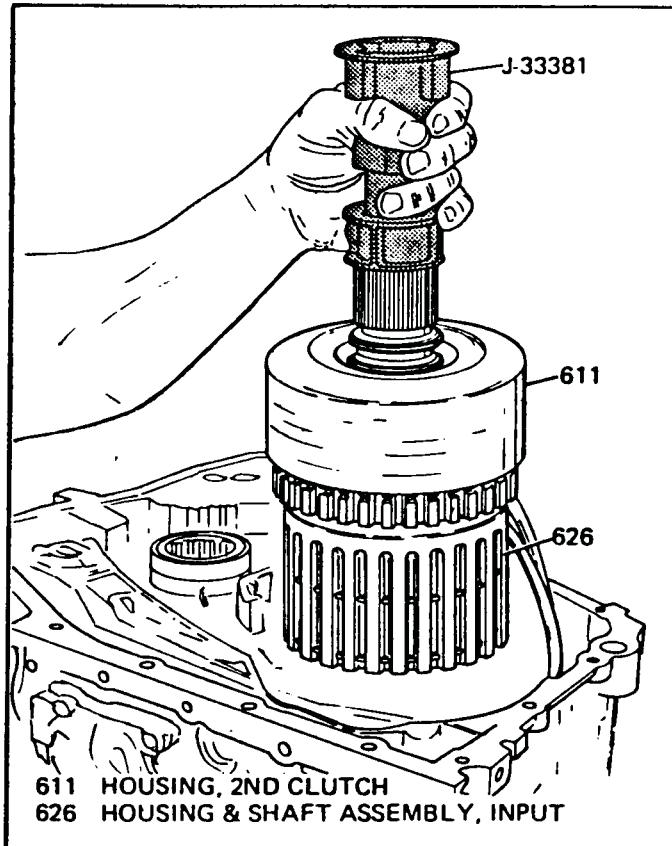

Figure 56
3. Remove the 2nd clutch housing, input/ third clutch housing, sprag and roller clutch assembly, and input sun gear, as shown in Figure 56.